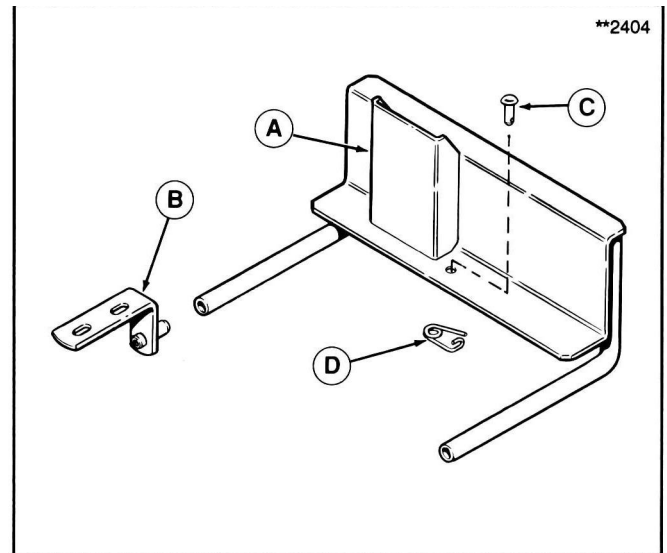
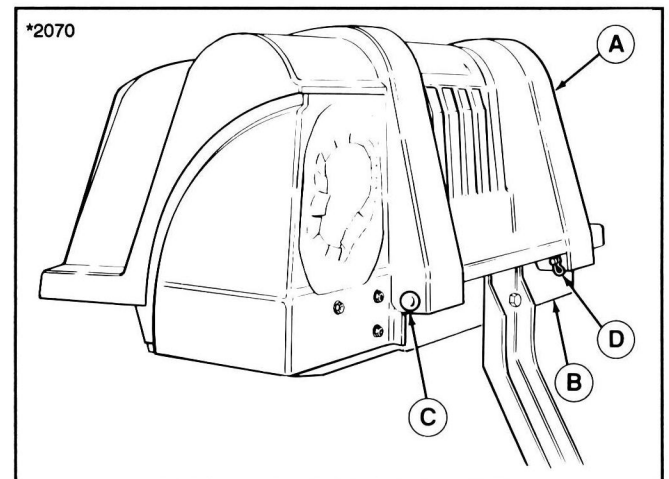

Figure 1.
Figure 2.
1. Install the grass bag and bracket assembly (A, figure 1) on the anchor assemblies (B) located on each side of the transmission housing. Push forward so the bracket assembly rests fully on the anchors.
2. Insert the round pin (C) through the bracket assembly and frame, and secure it using the safety clip pin (D).
NOTE: If grass bag and bracket assembly is too bulky to install as one piece, separate the grass bag cover (A, figure 2) from the upright support (B) by removing clips (D) and long clevis pins (C). Reinstall cover after support assembly is properly installed.